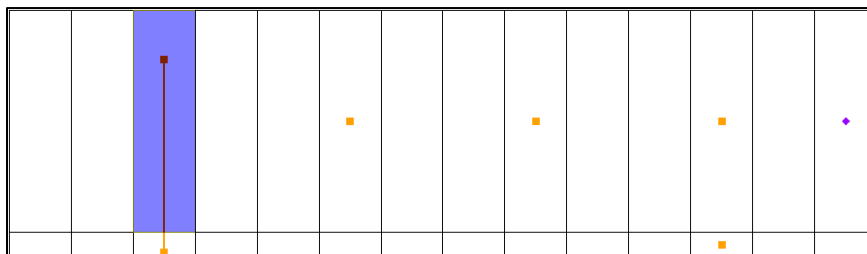

Figure 10 Selected MNW2 well cell
1. Using the **Select Cells**  tool, select the 3D grid cell with WELL-A in it (highlighted in Figure 10).